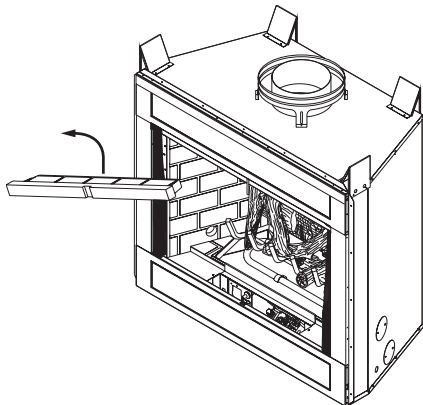

Figure 2 - Removing Front Refractory Access Panel
3. Remove front refractory access panel by lifting up and angling out of firebox opening (see Figure 2, page 2).